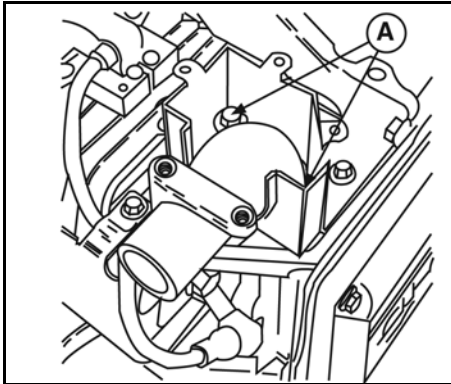

Figure 25
2. Install new gasket and adapter. Install screws (A, Figure 25) and torque to values listed in Section 12 - Engine Specifications.